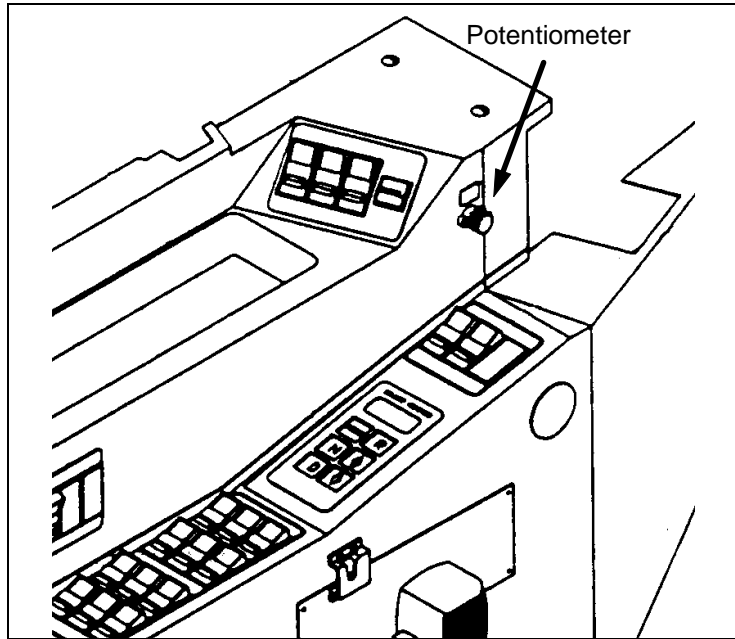

FIGURE 2: LOCATION OF POTENTIOMETER ON AN H3 COACH 06205
1. Disconnect connector C308 which can be found in the wire harness between the alarm junction box (Fig. 1) and the potentiometer (Fig. 2 and 3.)